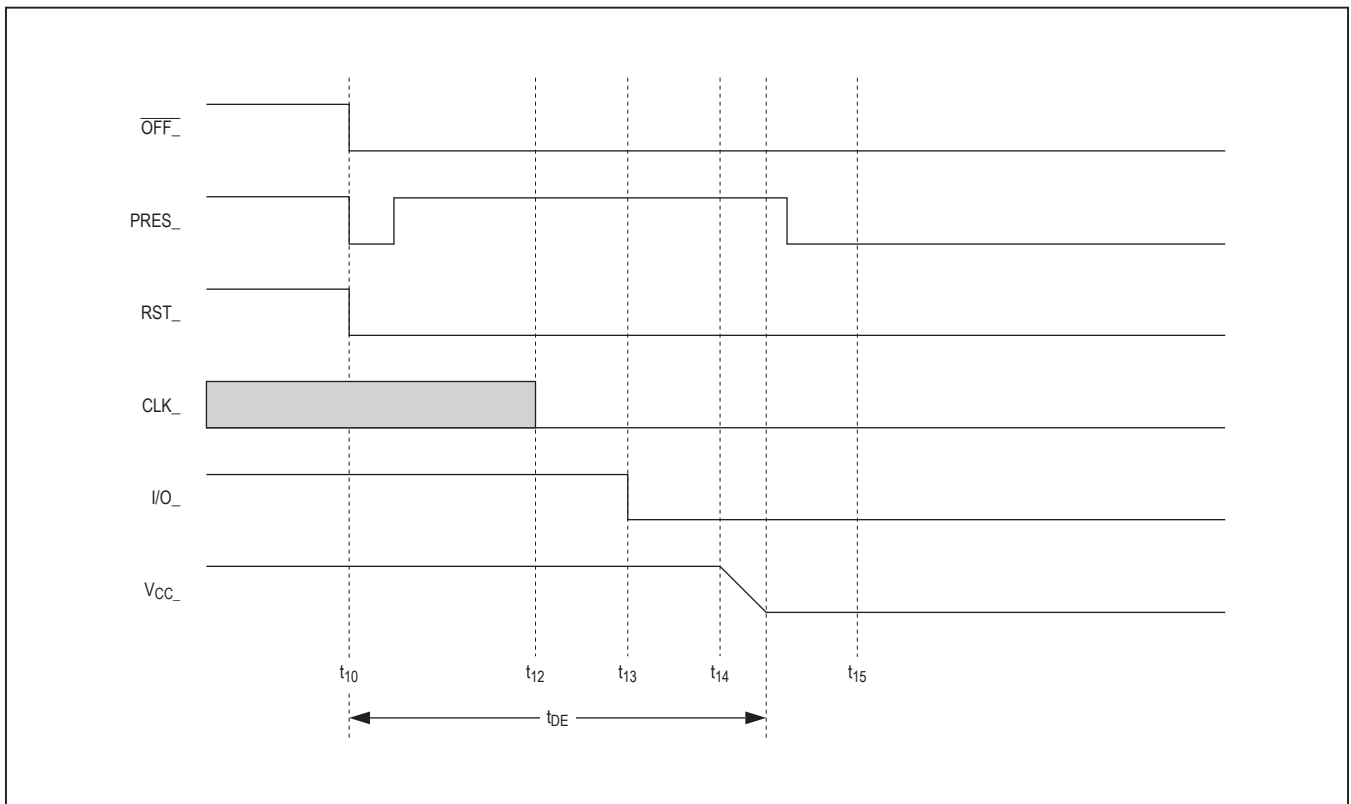

Figure 7. Emergency Deactivation Sequence (Card Extraction)
- **$\overline{CMDVCC}$  Low Within a Card Session.** Output  $\overline{OFF}$ \_ goes low when a fault condition is detected, and an emergency deactivation is performed automatically (Figure 7). When the system controller resets  $\overline{CMDVCC}$  to high, it may sense the  $\overline{OFF}$ \_ level again after completing the deactivation sequence. This distinguishes between a card extraction and a hardware problem ( $\overline{OFF}$ \_ goes high again if a card is present). Depending on the connector's card-present switch (normally closed or normally open) and the mechanical characteristics of the switch, bouncing can occur on the PRES\_ signals at card insertion or withdrawal.